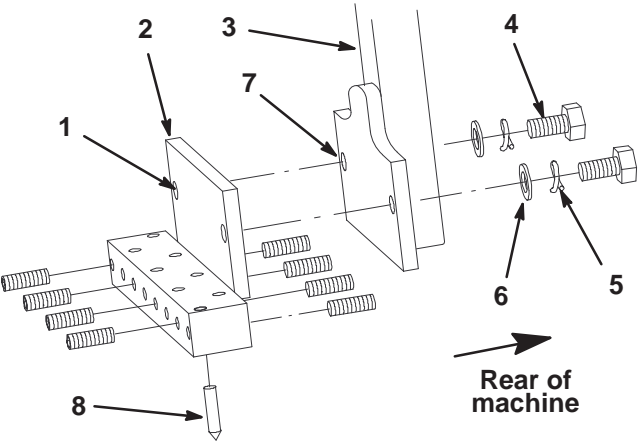

Figure 2
Installing Tine Heads with 12mm Mounting Holes (Fig. 2)
If your tine heads have mounting holes that measure 12mm (Fig. 2), proceed with the following:
- 1. Slide the tines completely into the mini tine head (Fig. 2) and torque the set screws to 35–40 ft-lbs (50–55 N•m). When installing the tines, use a piece of wood or a metal plate to hold the tines into place until the set screws can be tightened.
- 2. Mount the tine heads to the tine arms with (2) M12 x 35mm capscrews, lock washers, and flat washers (Fig. 2). Torque to 60–70 ft-lbs (85–95 N•m).
**Note:** If mounting the tine head to ProCore Model No. 09700, 09701, or 09702, you will need parts listed in the table below which are not included in this kit. Press the spacers into the tine arm (Fig. 2) and use the fasteners stated in the table to mount the tine heads to the tine arms in the opposite direction shown in Figure 2. Torque to 60–70 ft-lbs (85–95 N•m).